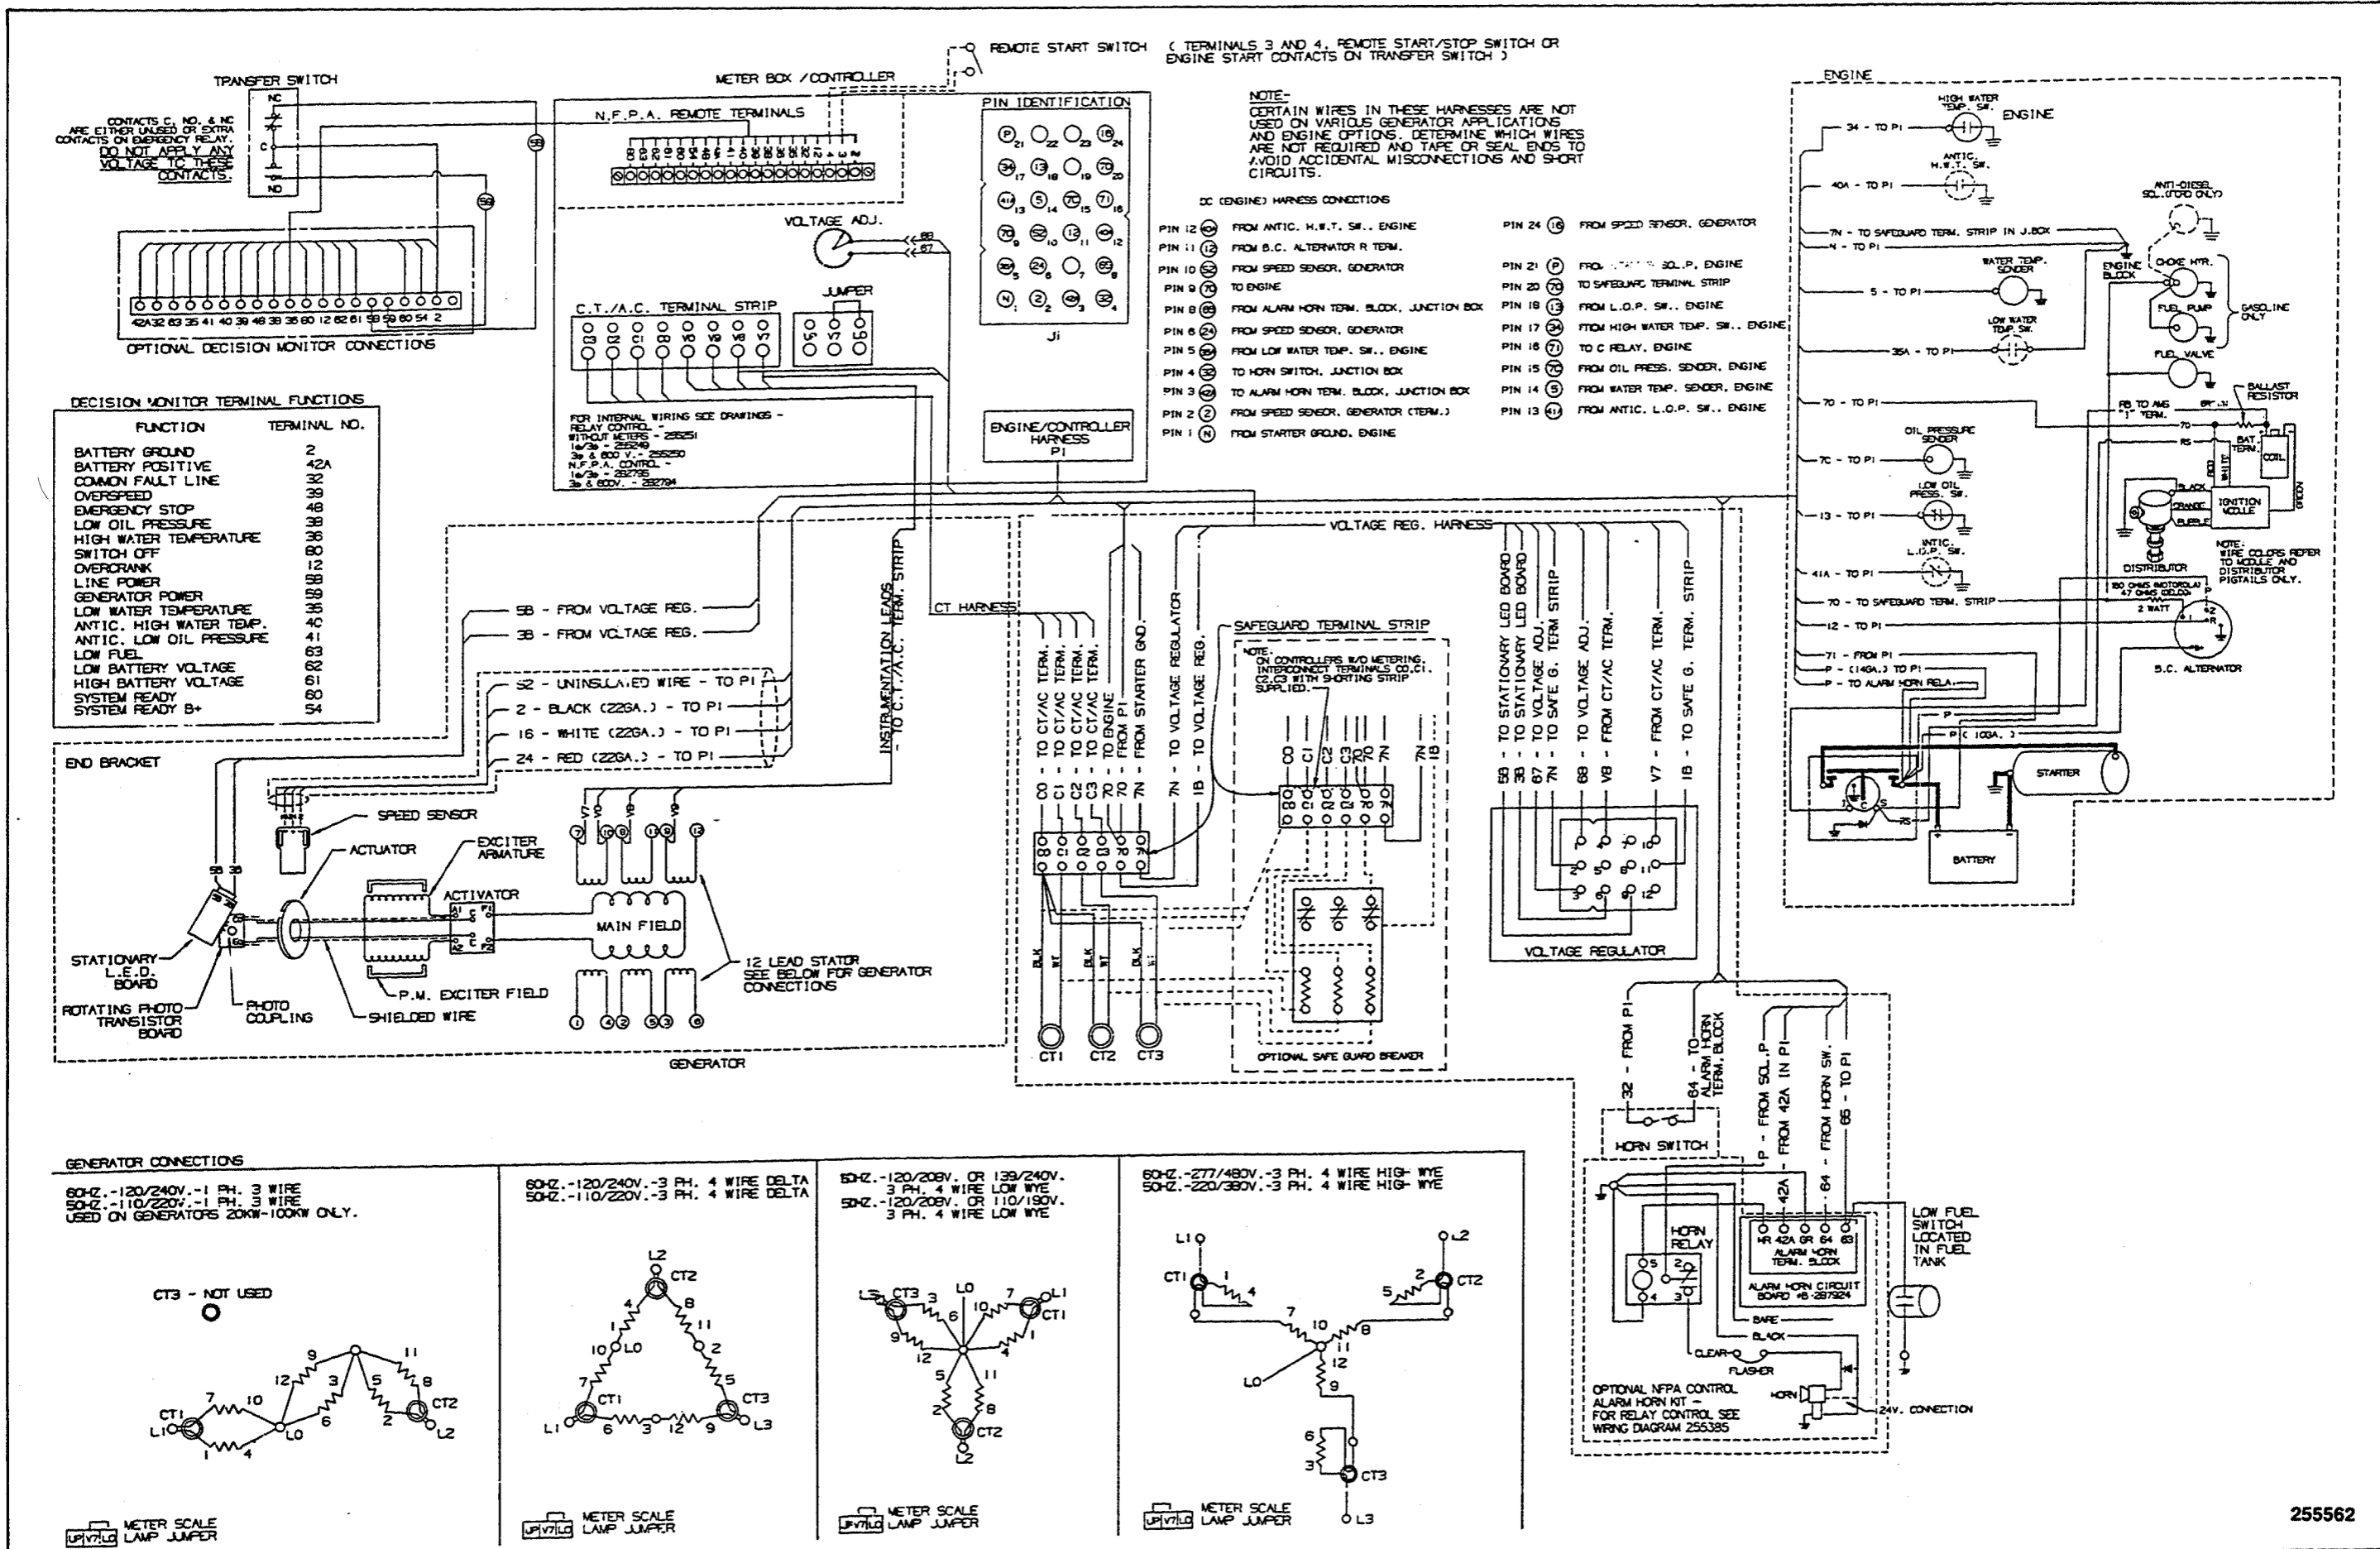

Figure 7-8. Ford LSG-875 Gas/Gasoline w/Electronic Ignition 1-Phase/3-Phase
- Figure 7-8. Ford LSG-875 Gas/Gasoline w/Electronic Ignition, 1-Phase/3-Phase